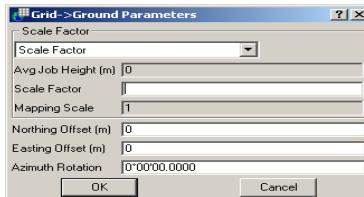

Figure 3-45. Grid->Ground Parameters Dialog Box
- On the **Grid->Ground Parameters** dialog box, enter the transformation parameters (Figure 3-45).